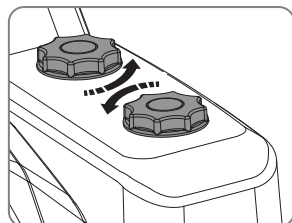

Fig. 41
2. Loosen the knobs that hold the air filter cover and remove the cover (Fig. 41).